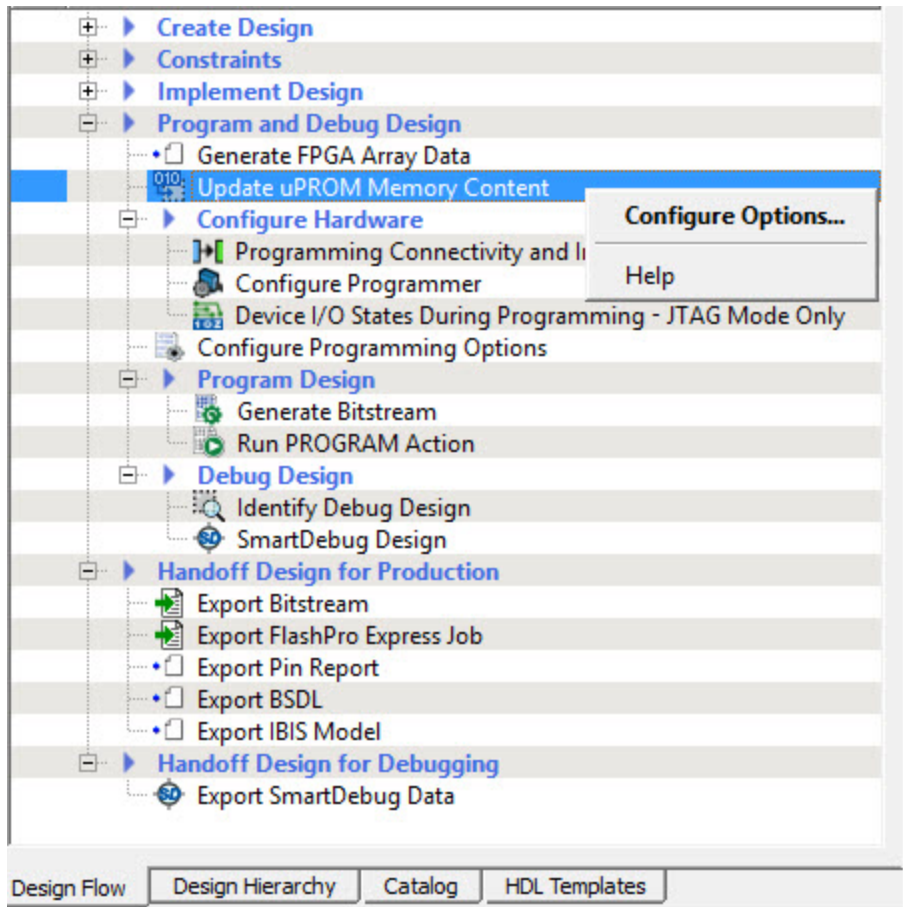

Figure 5-3 • Update uPROM Memory Content
9. For RTG4, if you need to change uPROM content, open the "Update uPROM Memory Content" dialog box (Figure 5-3). Changes you make in this dialog box will be saved to the uPROM.cfg file you imported in Step 7.